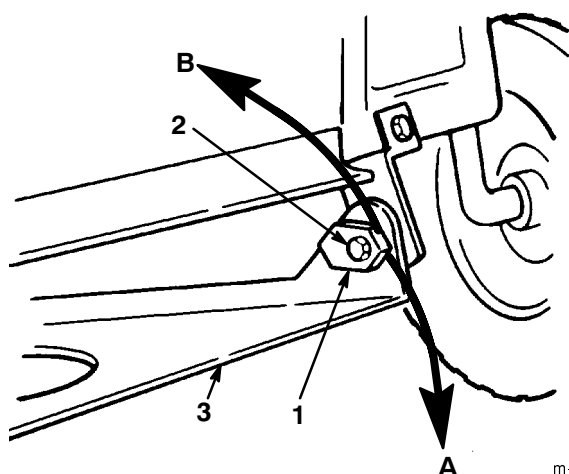

Figure 48
8. Adjust the front-to-rear slope by rotating the special slope adjusting nuts on both sides of the mower pivot mount (Fig. 48).
9. Using a 1 in. wrench or socket, slowly rotate the left side slope adjusting nut down to raise the front of the mower and up to lower it (Fig. 48). Rotate the slope adjusting nut until the front of the mower is 1/4 to 5/8 in. (6 to 16 mm) lower than the rear of the mower.